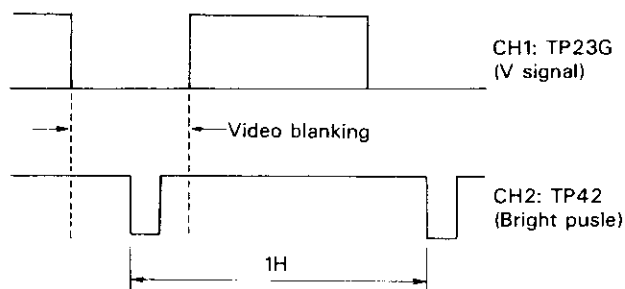

Fig. 78
- ⑤ If the green mode without SYNC is used (Figure 78), adjust VR105 so that the bright pulse comes to the proper position within the video blanking period.